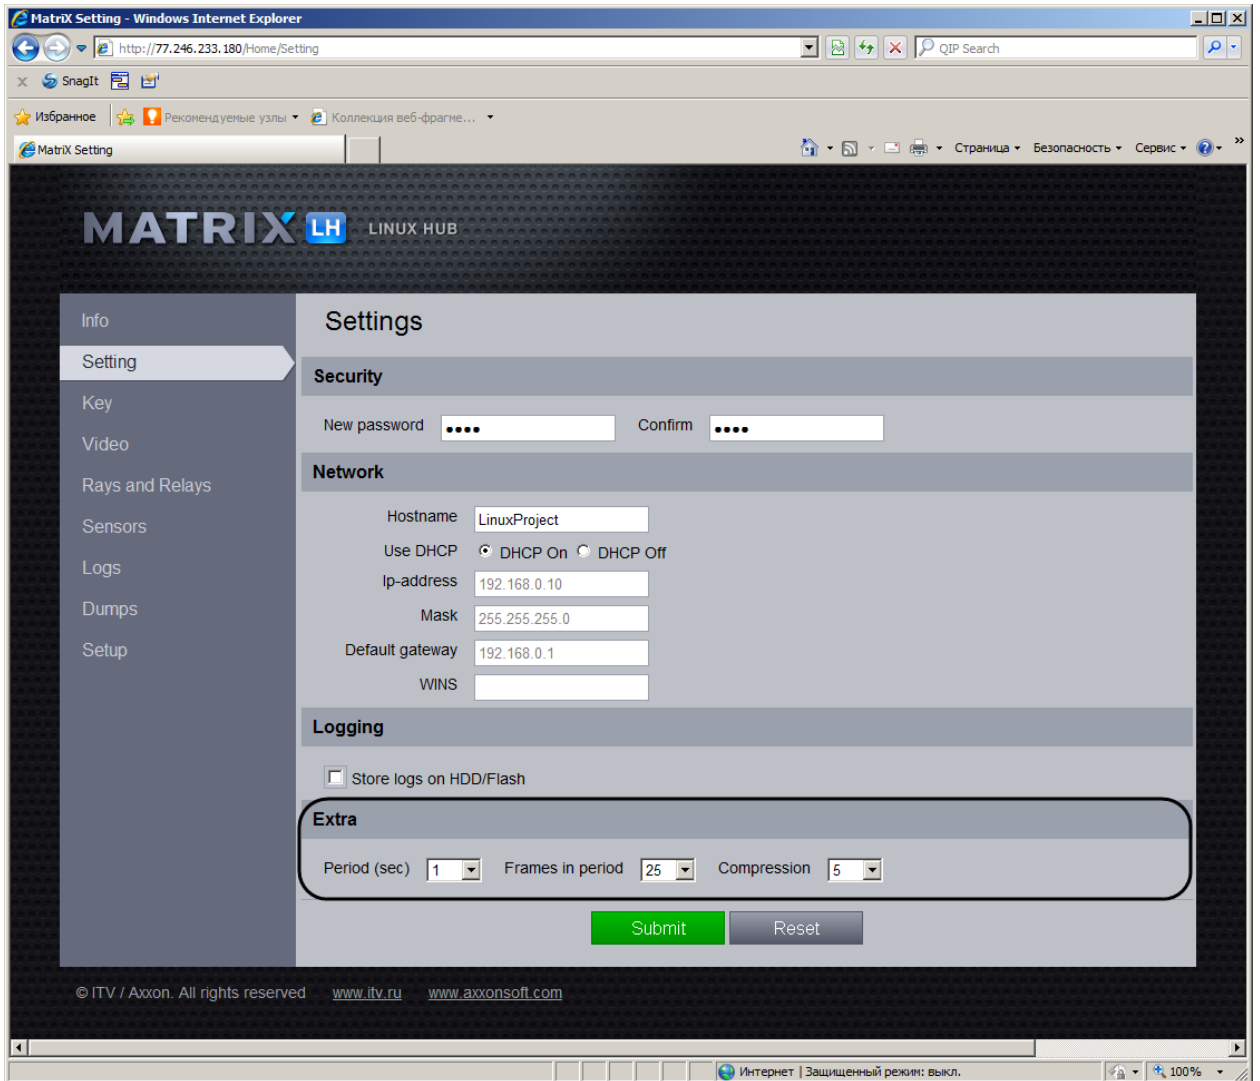

Figure 7.3-7 Configuring parameters of video stream displaying
Parameters of video stream displaying in the LS (LH) Web interface are configured in the **Settings** tab of the **Extra** group (Figure 7.3-7):